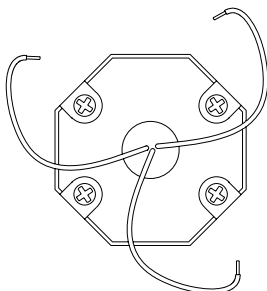
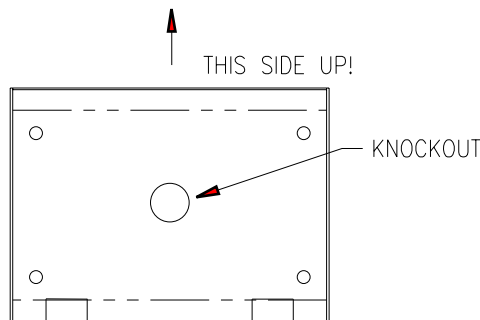

Figure 2
Figure 2A
3. Mount either an octagonal or square junction box (not supplied) to wall (recessed or surface). See Figure 2. Note: If using optional Surface Wiring Box, mount to wall notch-side down, then proceed to Step 8. See Figure 2A.